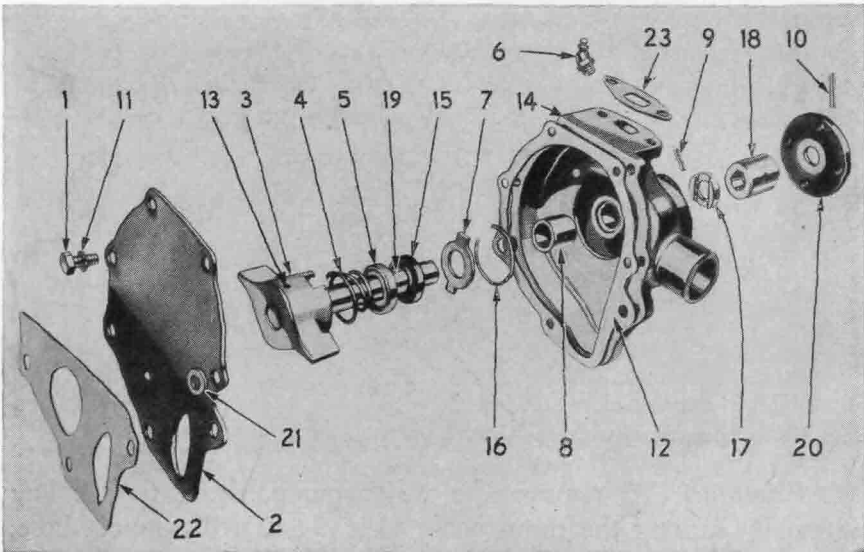

FIG. 14-18. Water pump in disassembled view. (Plymouth Division of Chrysler Corporation)
- a. For disassembly, refer to Fig. 14-18.